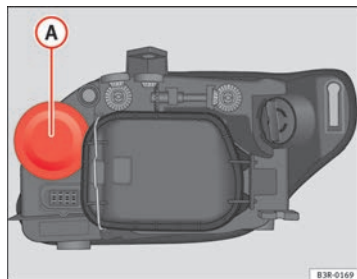

Fig. 208 Indicator bulb
- Pull the rubber cap ⇒ fig. 208 to remove it.